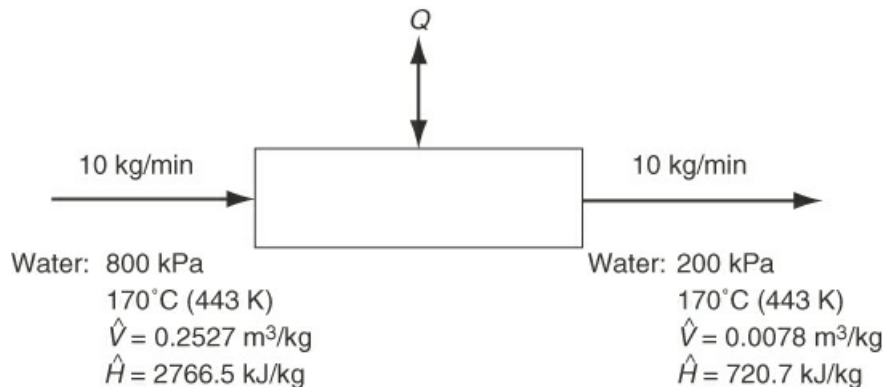

Figure SAT 8.4.2P1
1. Calculate Q for the system shown in Figure SAT 8.4.2P1 in kJ/min.